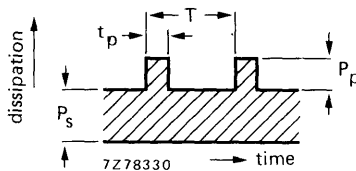

Fig. 3.
b. Pulse conditions (see Fig.3)